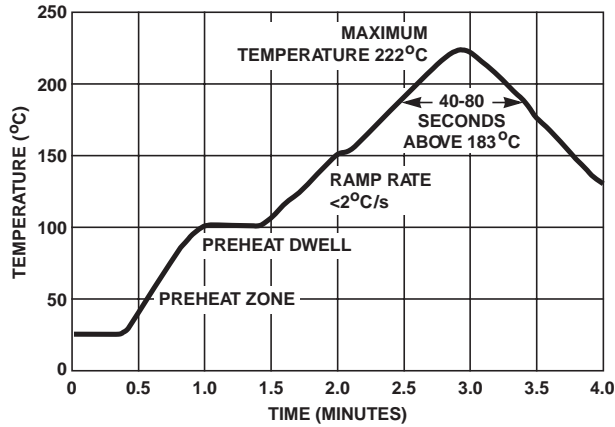

FIGURE 12. IR REFLOW SOLDER PROFILE
The principal techniques used for the soldering of components in surface mount technology are Infrared (IR) Reflow, Vapour Phase Reflow, and Wave Soldering. Typical profiles are shown in Figures 12, 13 and 14. When wave soldering, the MLN suppressor is attached to the circuit board by means of an adhesive. The assembly is then placed on a conveyor and run through the soldering process to contact the wave. With IR and Vapour Phase Reflow, the device is placed in a solder paste on the substrate. As the solder paste is heated, it reflows and solders the unit to the board.